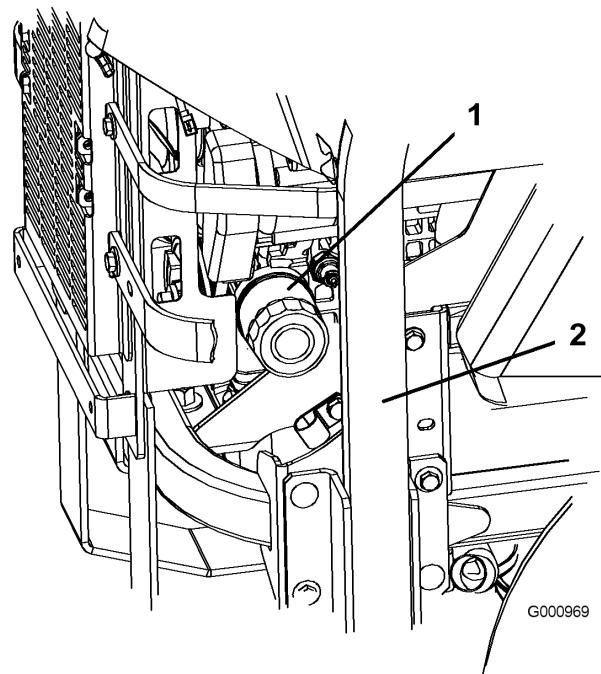
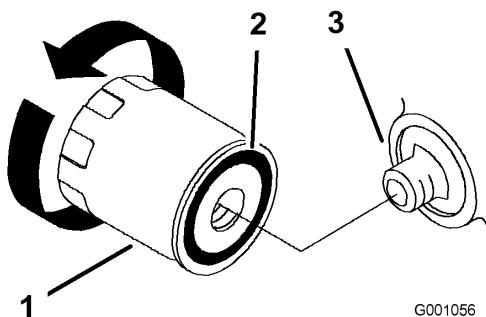

Figure 36
Figure 37
2. Turn the filter counterclockwise to remove it (Figure 36 and Figure 37).